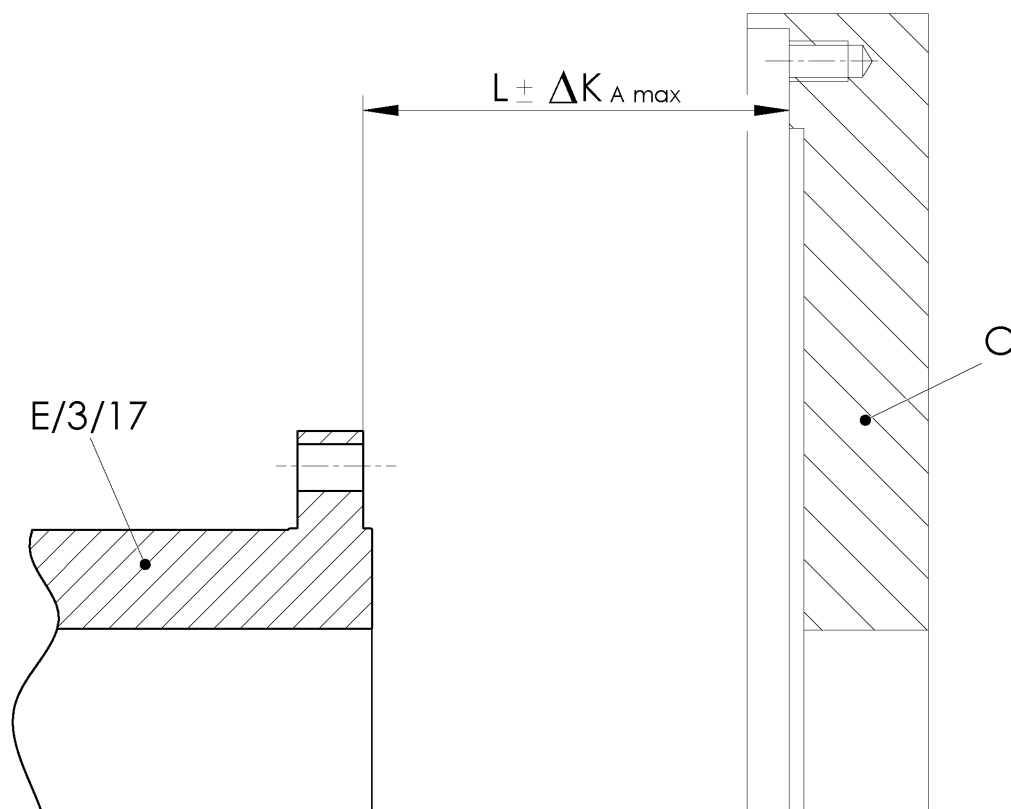

Fig. 5-1 Axial misalignment
- Determine the axial misalignment (see Fig. 5-1).